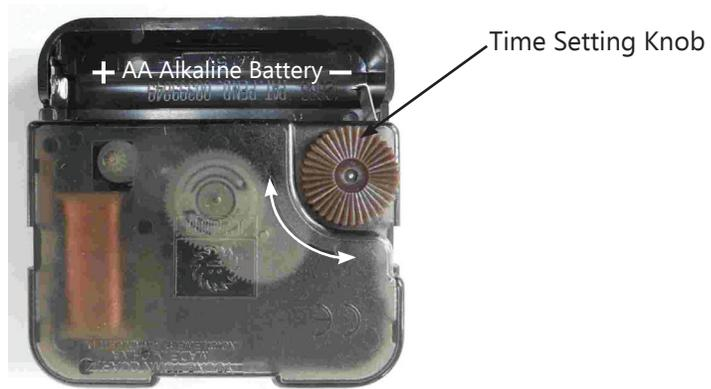

Figure 6
7. Install one new "AA" size alkaline battery according to the +/- symbols in the battery holder (Figure 6).
8. Set the time by using the Time Setting Knob (Figure 6) to rotate the hands to the correct time.